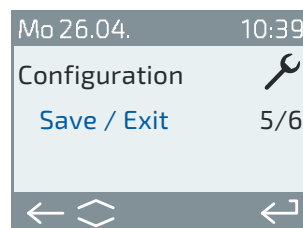

Fig. 008 Saving and exiting
**Saving** and exiting takes place in the **Safe / Exit** level (Fig. 008).